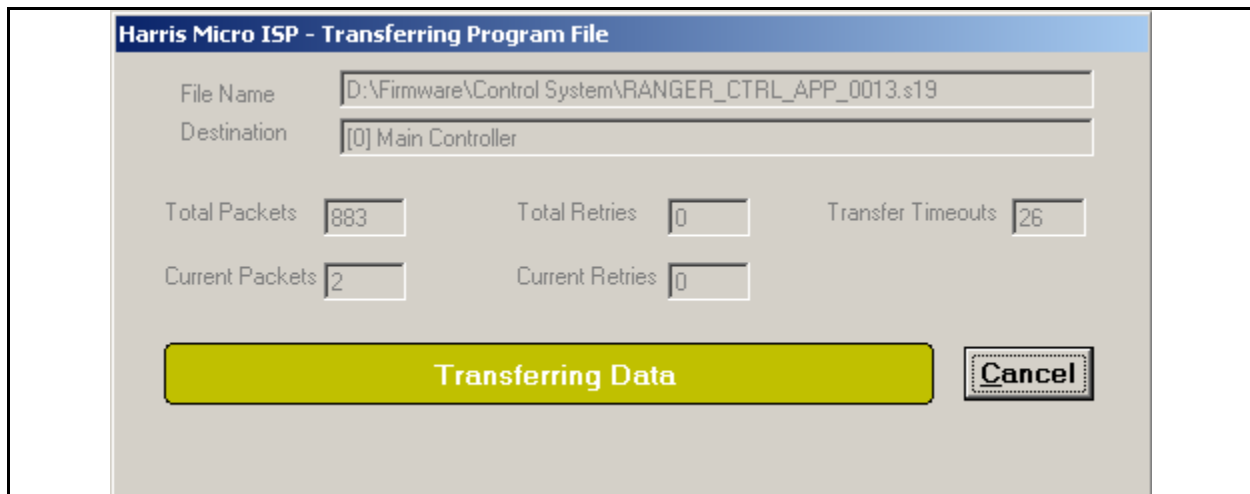

Figure 6-6 Data Being Transferred (will take several minutes)
STEP 11 Press Program. This will open the window in Figure 6-6 which monitors the transfer process. This will take several minutes.